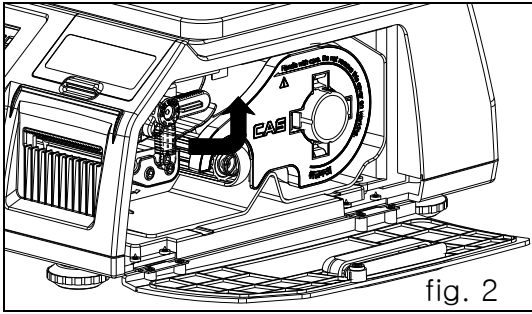

fig. 2
2) Lift up TPH lever as fig.2.